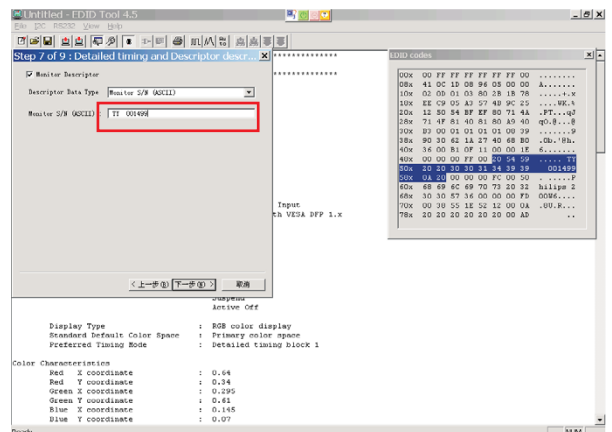

Fig. 23
- Click Next to step7, bring up Fig. 23.